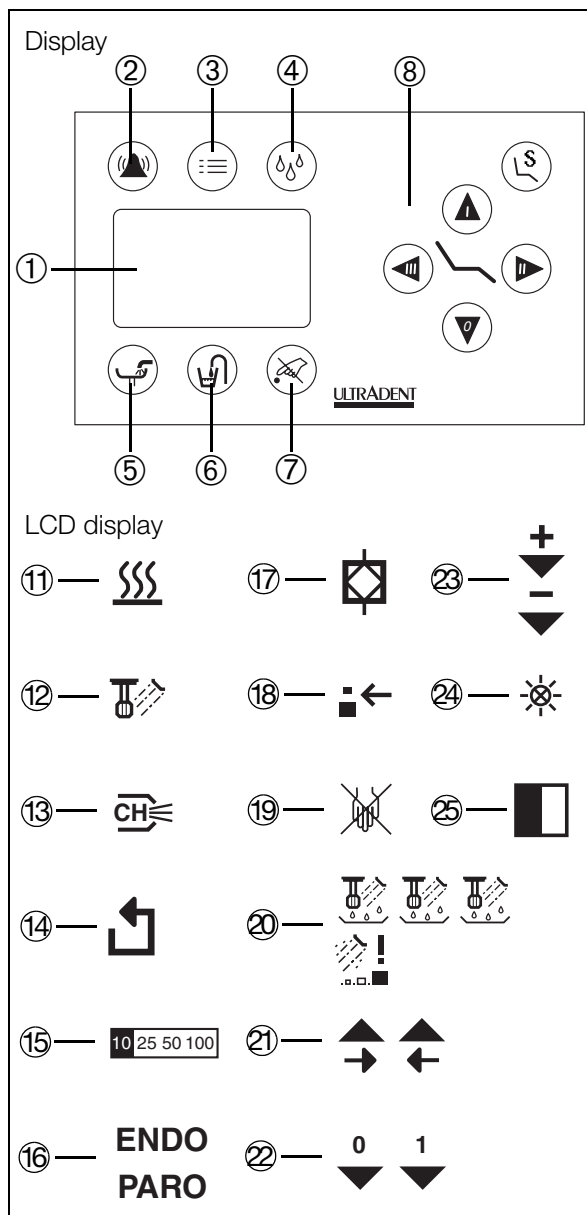

Fig. 69
- Replace all the handsets in their holders and press the menu button ② (Fig. 69) on the display. The submenu then appears.
- Keep tapping the touch key marked with a right arrow (Fig. 69) until the symbol ⑰ (Fig. 69) appears. If a "0" appears beneath the symbol ⑰ (Fig. 69), tap the touch key beneath the down arrow briefly until a "1" appears. The disinfection system is now switched on.
- Switch the disinfection system off again by tapping the touch key beneath the down arrow. A "0" ② (Fig. 69) will now be displayed.
- Return to the main menu by tapping the menu button ③ (Fig. 69).